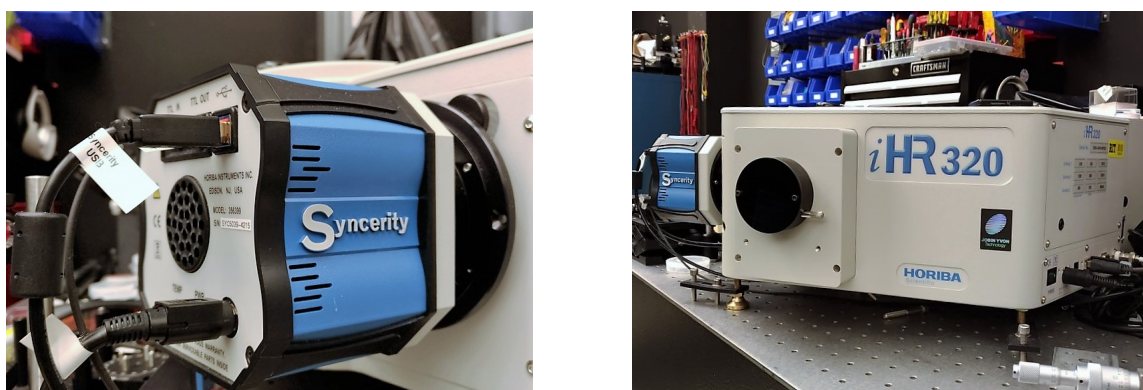

Figure 52. The Sincerity CCD Array detector (left) and the HR320 spectrometer (right) are part of the photoluminescence system.
Cfd professor Dr. Jing Zhang leads a semiconductor device optical property measurement lab located within the Lobo laboratory. This lab contains a photoluminescence (PL) system, seen in Figure 52, including an iHR320 spectrometer, a Sincerity CCD Array detector, a liquid helium cryostat and a 325 nm HeCd laser. There is LabSpec software capable of measuring semiconductor luminescence spectrum with wavelengths ranging from 325 nm – 800 nm. The liquid helium cryostat enables the system to conduct measurements at temperatures as low as 4 K.